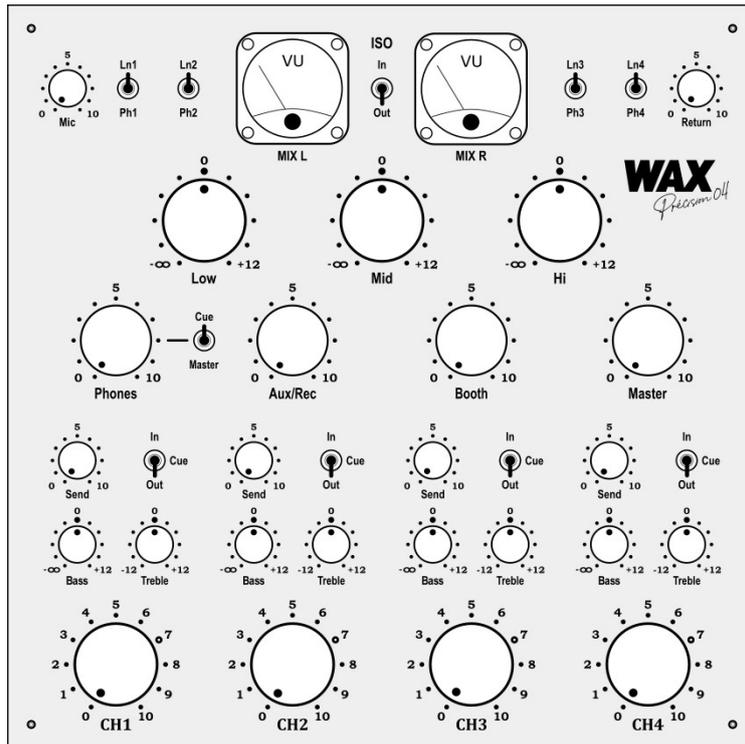

Fig.1
- 1• Zero down the controls just like Fig.1 above**
- 12• Once you're finished, zero down the controls again (Fig.1 above) and turn off your equipment and mixer from the speakers to the sources, do not use a global AC switch**